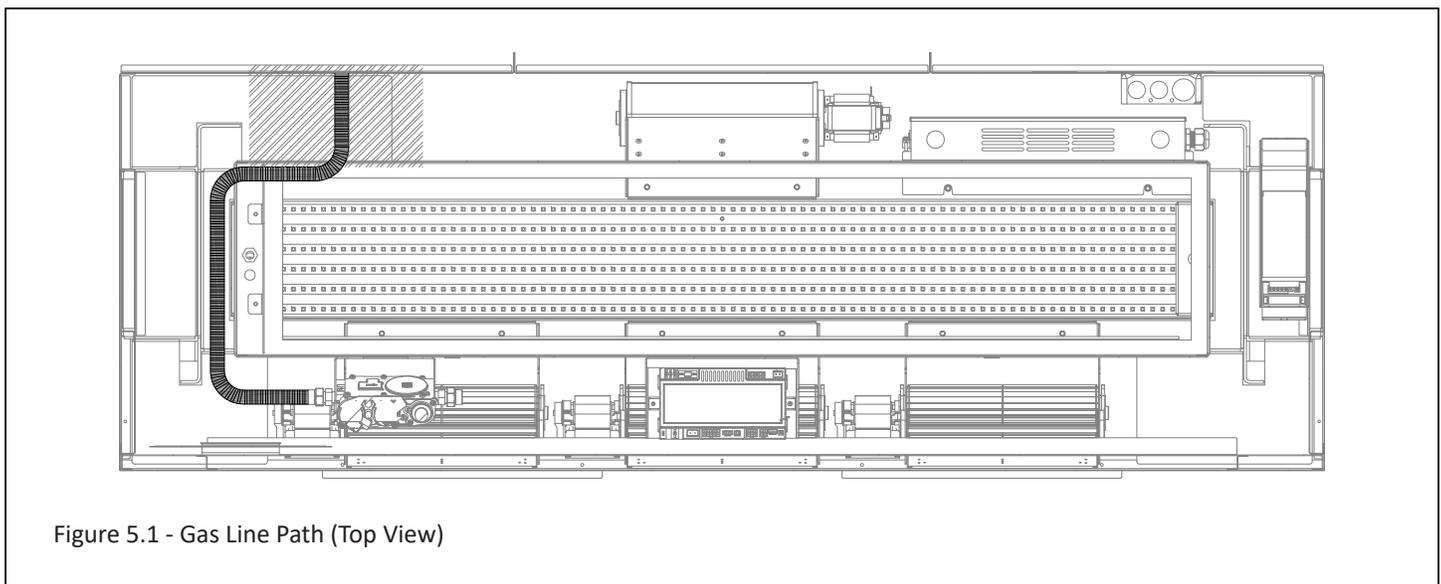

Figure 5.1 - Gas Line Path (Top View)
- Figure 5.1 shows where to route the flexible gas line from the gas valve to the gas supply line. This path ensures the flexible gas line does not block the LED light kit. The shaded area in the back left corner is where we recommend the gas shut off valve to be connected to the gas supply line. This will ensure you have access to the shut off valve when removing the control board. Run gas line into fireplace through gas line hole provided. See Figure 2.1, Appliance Dimensions for gas line access.